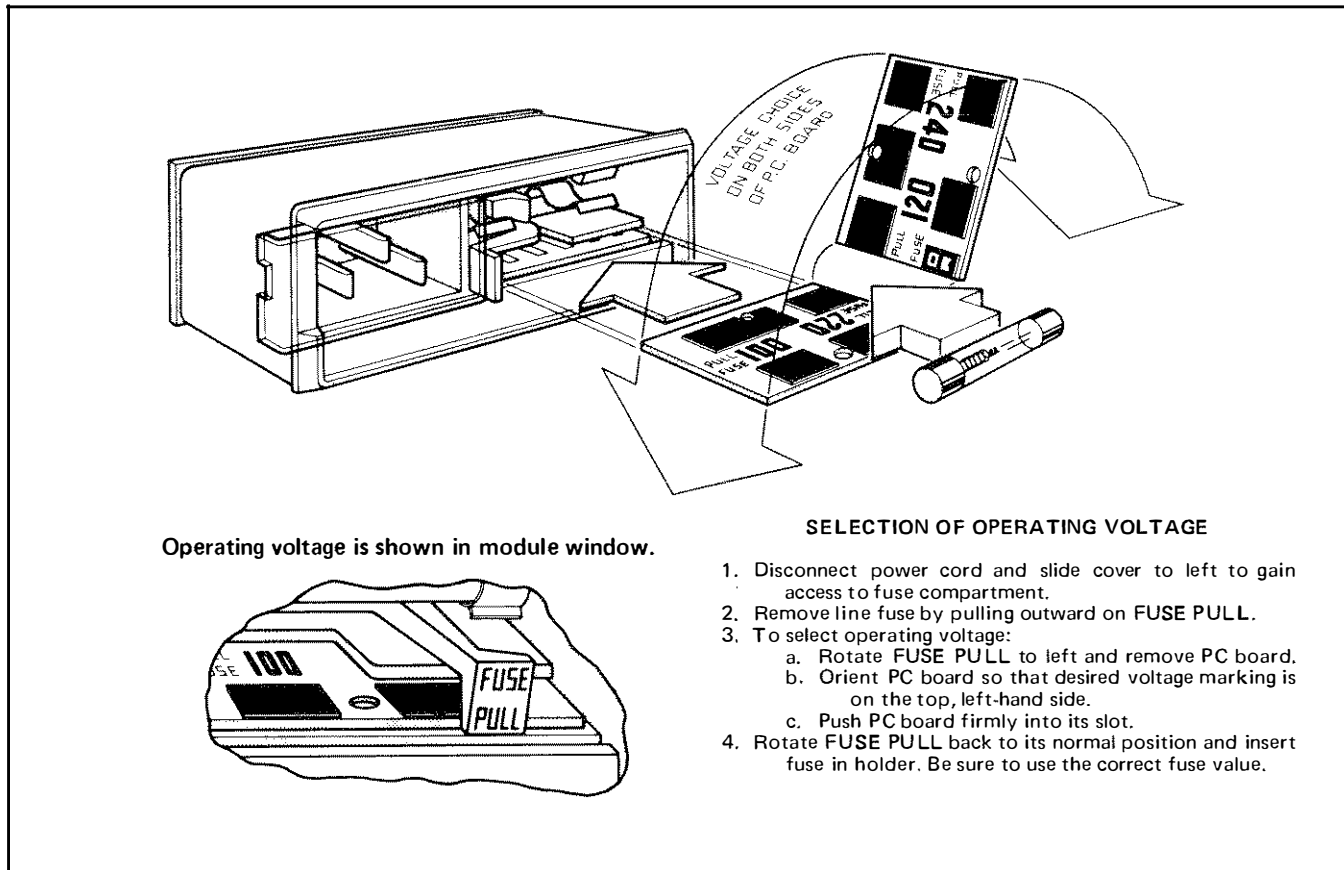

Figure 3-24. Voltage Selection.
- Refer to Figure 3-24 and set the 3581 for the line voltage to be used (100 V, 120 V, 220 V or 240 V). Line voltage must be within + 5% to - 10% of voltage setting.